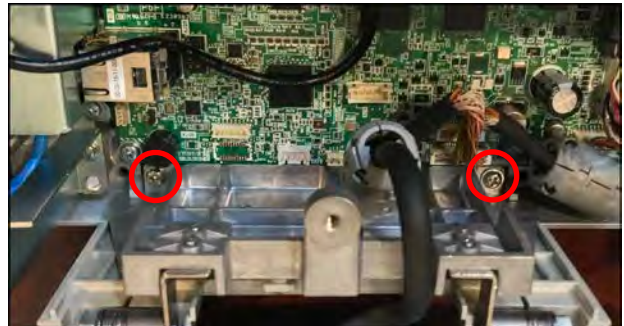

Figure 20. Remove Hinge Bracket
- i. Remove the two screws securing the keyboard hinge bracket. See Figures 20.